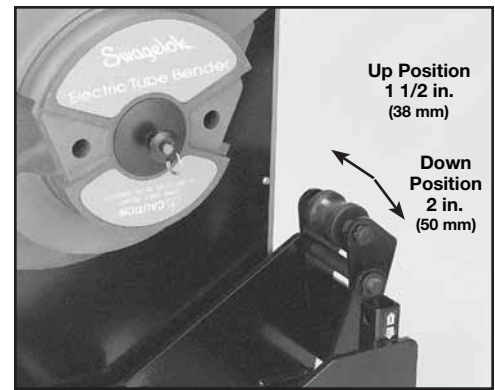
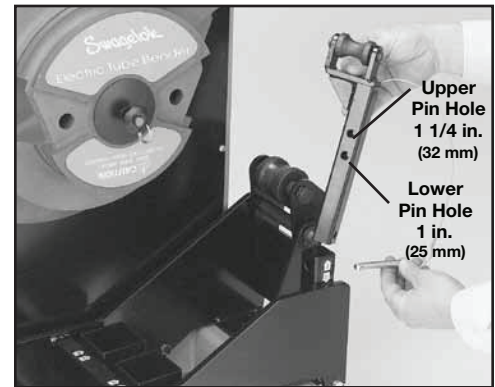

Figure 1
Figure 2
1. Select and install proper tail rollers. To bend 1 1/2 in. (38 mm) OD tubing, use the fixed tail roller in the up position. For 2 in. (50 mm) OD tubing, use the fixed tail roller in the down position. (See Figure 1.) To bend 1 in. (25 mm) OD tubing, use the 1 in. (25 mm) removable tail roller, securing pin in lower pin hole (up position). For 1 1/4 in. (32 mm) OD tubing, use the 1 1/4 in. (32 mm) removable tail roller, securing pin in upper pin hole. Align roller with the inside of the unit. (See Figure 2.)